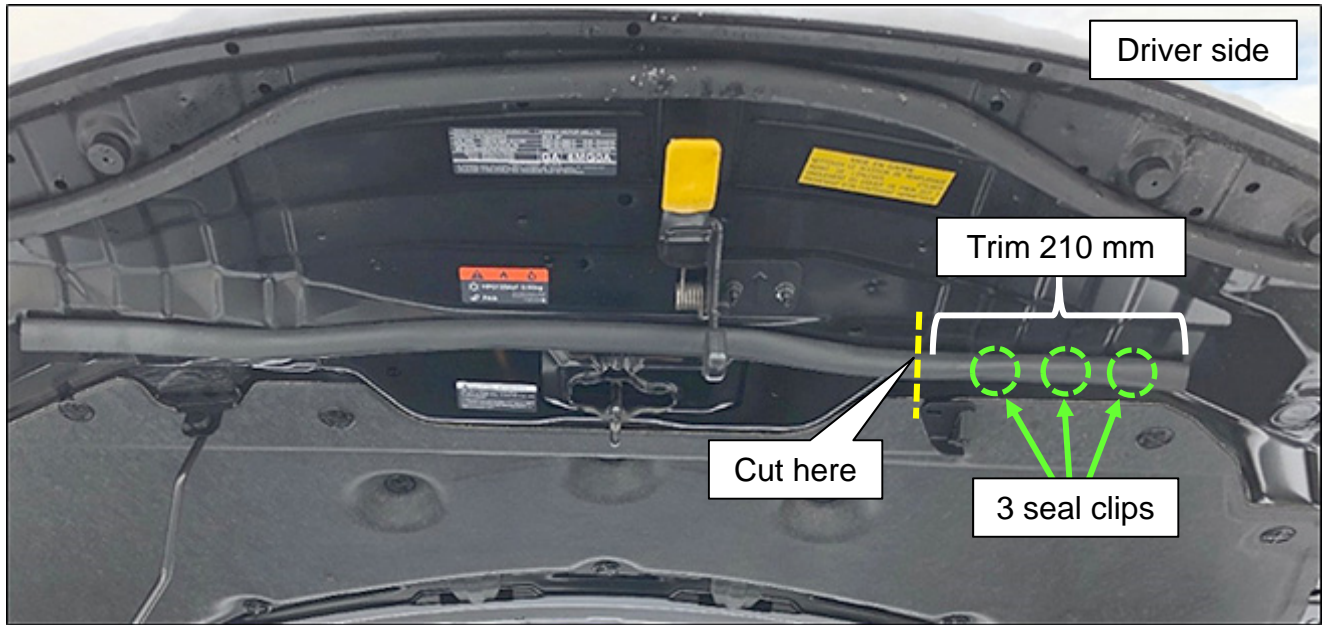

Figure 2
- Remove the three (3) clips from the hood seal, and then trim 210 mm of the hood seal (measured from the driver side), where shown in Figure 2.